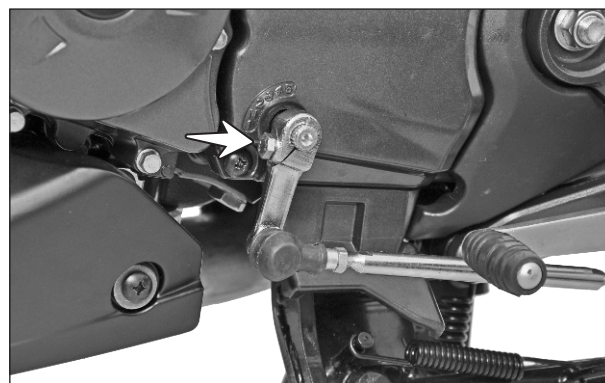

Fig. 2.123
- Loosen hexagonal screw (M6x20 - 1 no) from the arm gear shifter lever mounting and dislocate the gear shift lever from the shaft assembly gear shift. (Fig. 2.123)